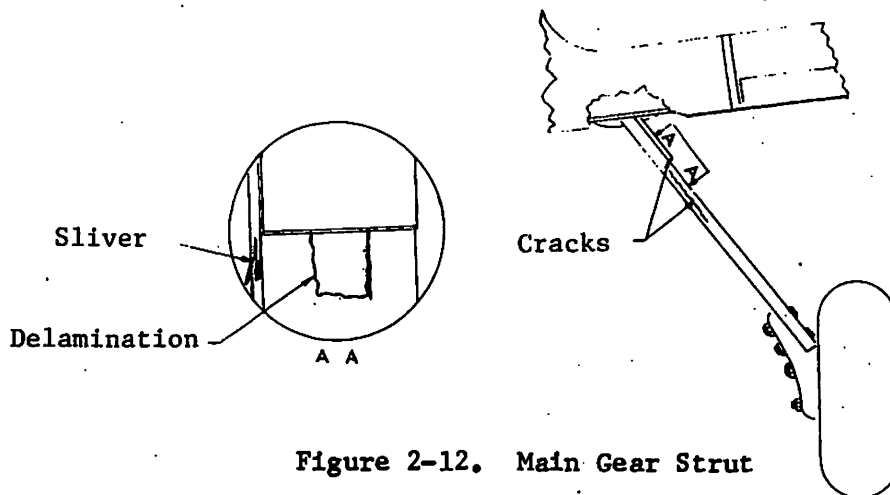

Figure 2-12. Main Gear Strut
1. Inspect the laminated fiberglass main gear struts for evidence of cracks or delamination, as shown in Figure 2-12. Minor surface delamination is acceptable, providing they do not extend more than 1 ply (.010") into the surface of the strut. Corner delaminations (slivers) are acceptable if they are smaller than 1/16" x 1/16" size throughout their length.